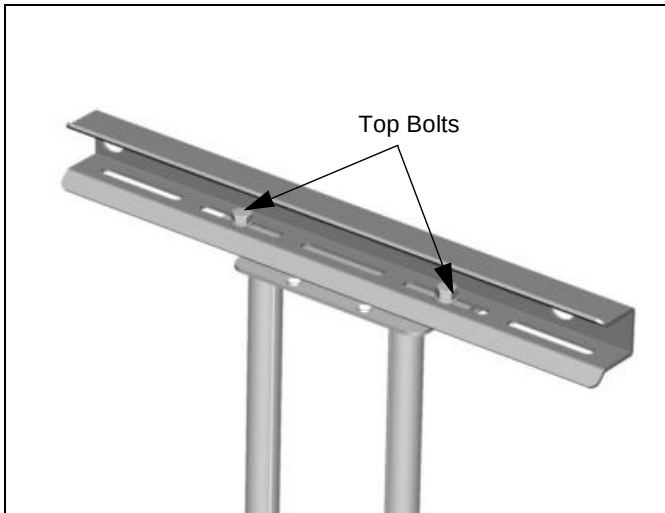

Figure 12
2. Loosen four bolts (two on the top and two on the bottom) securing the swing arm assembly to the top and bottom mounting brackets (See Figure 12).